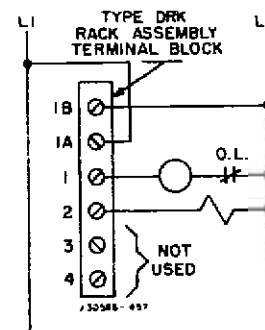

Figure 1 - Typical Wiring.
Output device wiring is done to the terminal block immediately below the slot on the rack assembly into which the module is plugged. Figure 1 illustrates the typical wiring for the Type DOM-235 Deluxe Output Module. If a single voltage supply is used for more than one output module, the "A" terminal of each terminal block may be connected together.
- To obtain proper illumination of the "LOAD" and "BLOWN FUSE" LED indicators, the "A" and "B" terminals must be connected as shown in Figure 1. At voltages below 90 V, the "LOAD" and "LOGIC" LED's will become increasingly dimmer as the voltage decreases down to 24 V.